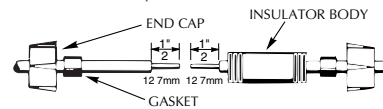

FIGURE 10
4. Unscrew plastic caps from insulators. Place a cap and a neoprene gasket sleeve on each wire end to be spliced (see Figure 10).
5. Slide insulator body onto one wire end (Figure 10).